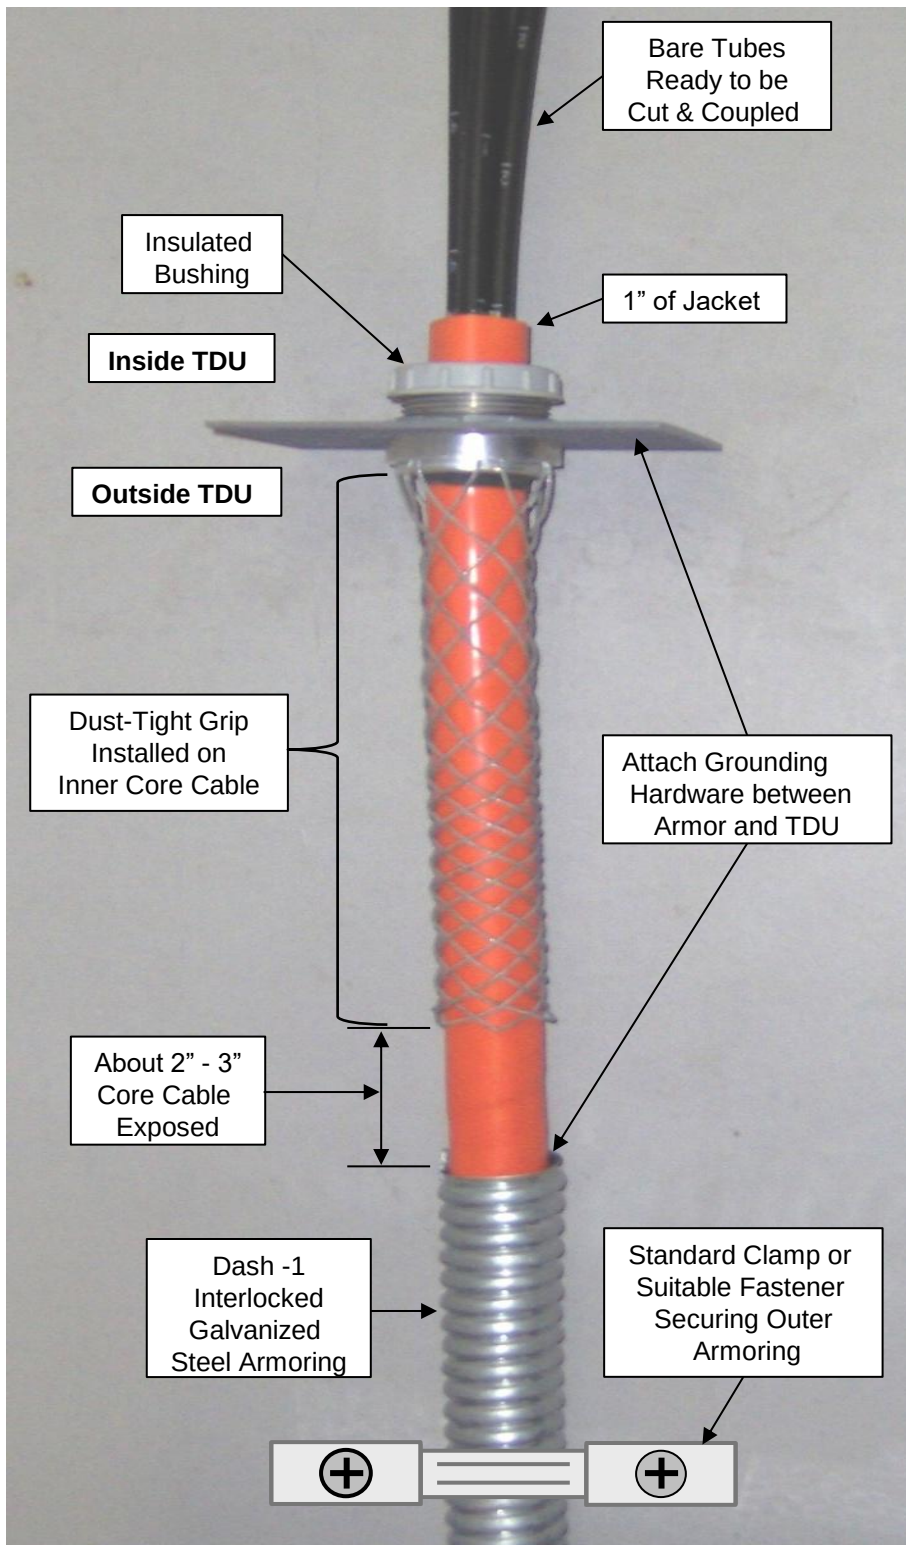

Figure 7
8.5 Prepare the tube cable for installation by first removing / unraveling the Interlock Galvanized Steel wrapping back to about 2”-3” longer than the wire basket of the selected Dust-Tight Grip. Bend the steel wrap back and forth until it breaks and remove it from around the core cable. These steps expose a length of core cable beyond the armor. **See Fig. 7.**